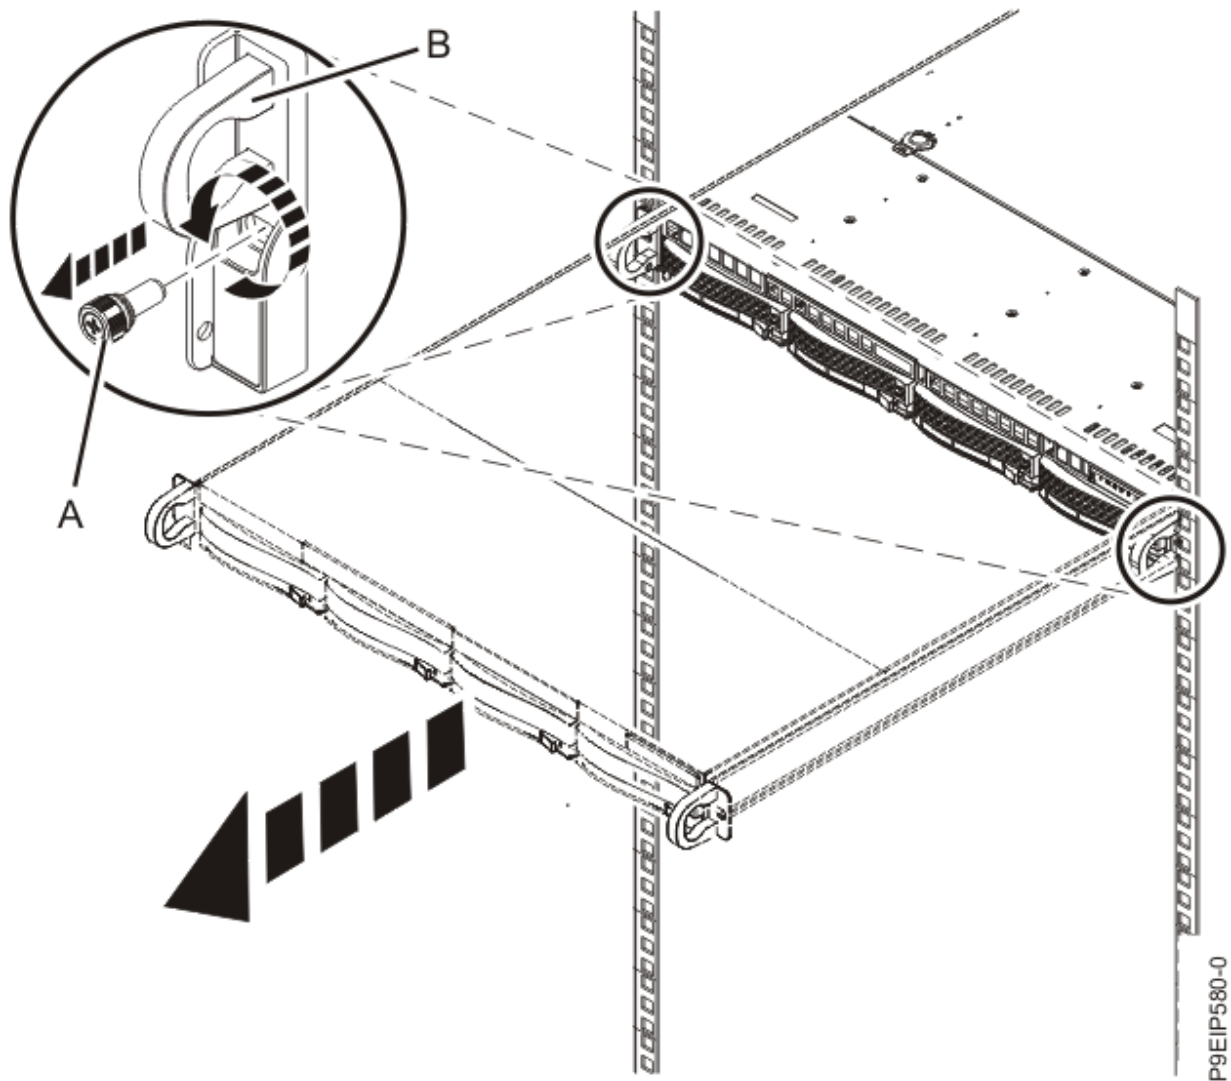

Figure 79. Removing the front screws and removing the system from the rack
2. Remove the front screws that secure the system to the rack from both sides of the system as shown in Figure 79 on page 101.